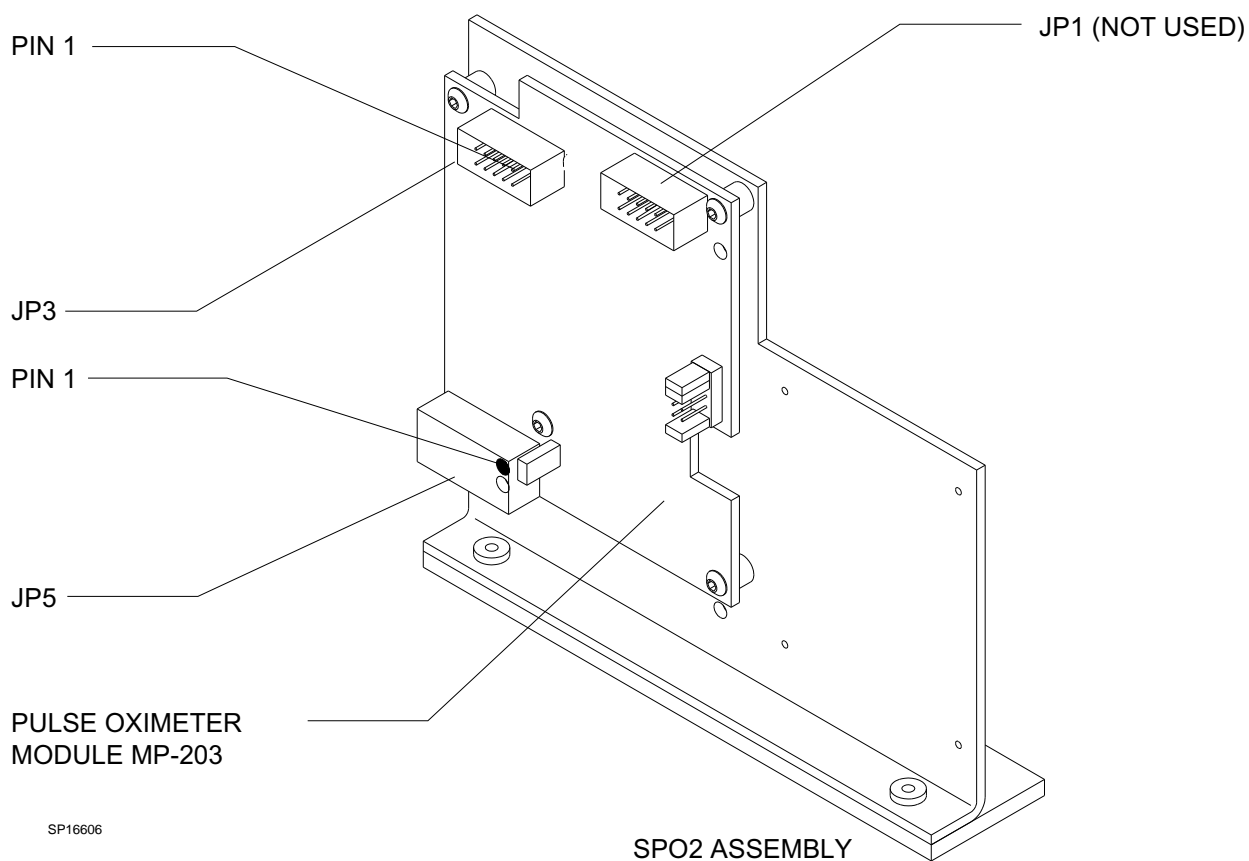

Figure 6: OXIMETER PCB CONNECTIONS
18. Connect the ribbon cable (P/N 4109131) to JP5 on the MP-203 oximeter PCB. Ensure that Pin 1 of the connector aligns with Pin 1 (indicated by an arrow in the connector) of the interface cable connector. See Figure 6 for details on the location of Pin 1 on the oximeter PCB connector.
19. Connect the interface panel cable to JP3 on the MP-203 oximeter PCB. Ensure that Pin 1 of the connector aligns with Pin 1 (indicated by an arrow in the connector) of the interface cable connector. See Figure 6 for details on the location of Pin 1 on the oximeter PCB connector.